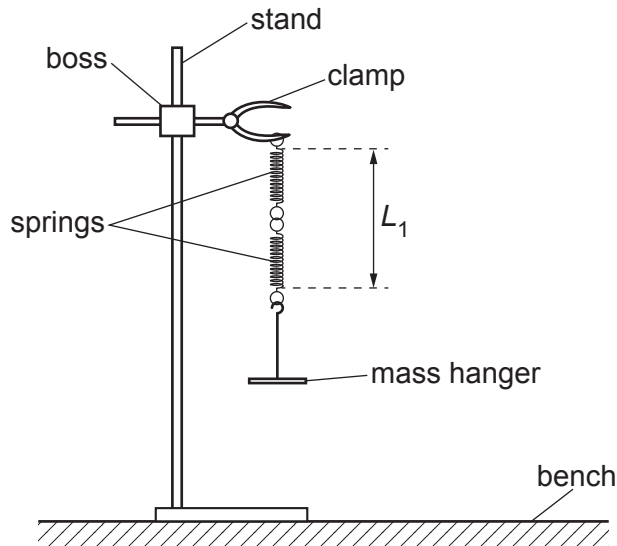

Fig. 2.1
(a) (i) • Set up the apparatus as shown in Fig. 2.1.
- The length  $L_1$  of the spring combination is measured from the top coil of the top spring to the bottom coil of the bottom spring, as shown in Fig. 2.1.